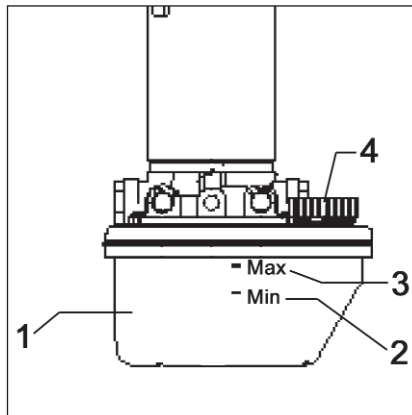

Fig.25
- Check hydraulic fluid level at tank (Fig. 25/1), the level must not fall below the minimum mark (Fig. 25/2) and maximum mark (Fig. 25/3).